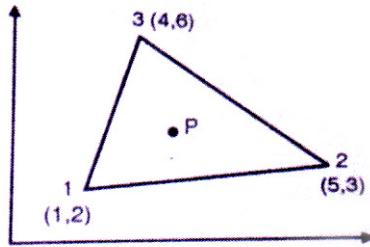

Figure 2
b) Determine the Jacobian of the triangular element as shown in figure 2. Also find area of the triangle. [6]